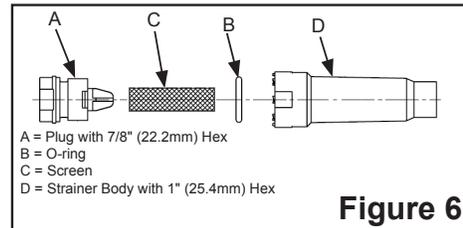

Figure 6
5. **Water Flow:** Confirm proper water flow. If water flow is slow, inspect filter or inline strainer for restriction. Replace filter cartridge if required. Disassemble inline strainer and clean if required See Figure 6.
2. **Cleaning Strainer:** Restricted water flow may be caused by clogged screen. Remove plug and screen. Clean screen and replace. Lubricate O-Ring with food grade pharmaceutical mineral oil. Do not overtighten plug or fittings. See Figure 6.